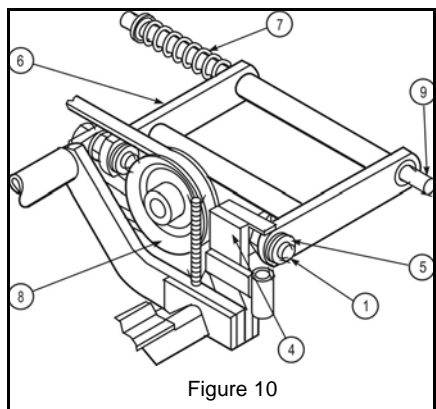
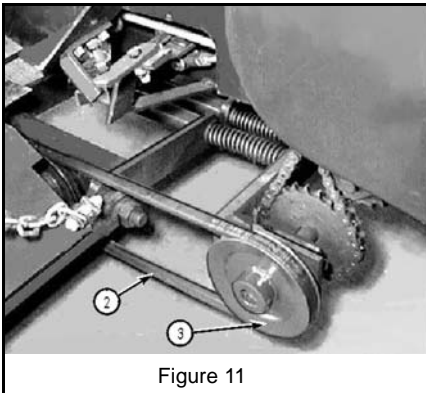

Figure 10
Figure 11
1. Remove wing mowers from crate. Position on each side of tractor with the yoke pins (1, Figure 10) facing the tractor.
2. Remove the two wing mower belts (2, Figure 11) fastened to the rear cutting unit and install over lower countershaft pulleys (3, Figure 11) on each side of the tractor. Place belt loosely over the end of the wing mower pull yoke (4, Figure 10).
4. Secure yoke pins in pull yoke with 3/4" I.D. flat washers and 1/4" x 1-1/2" cotter pins (5, Figure 10). Extra washers supplied are to be used as spacers, if needed, to allow a snug but free-moving pivot connection.
5. Pull cutting units forward so that the H Frames (6, Figure 10) will compress the springs (7, Figure 10), and install belts over reel pulleys (8, Figure 10).
6. Compress belts by hand to check for free movement of the H-frames back and forth on the H-frame shafts (9, Figure 10).